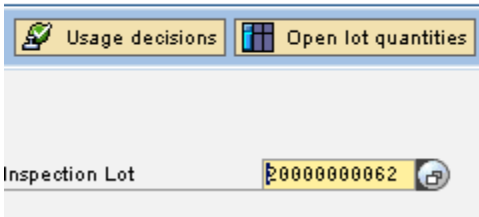

Fig. 12
8.4. Enter the Inspection Lot number in the "Inspection Lot" text box, from step 5.8.1 (Fig. 12)